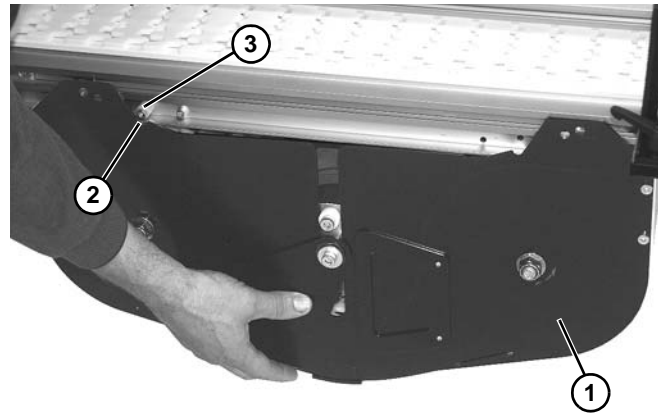

Figure 64
4. Raise weighted take up assembly (**Figure 64, item 1**) with notch (**Figure 64, item 2**) in assembly mating with stud (**Figure 64, item 3**) on conveyor frame.